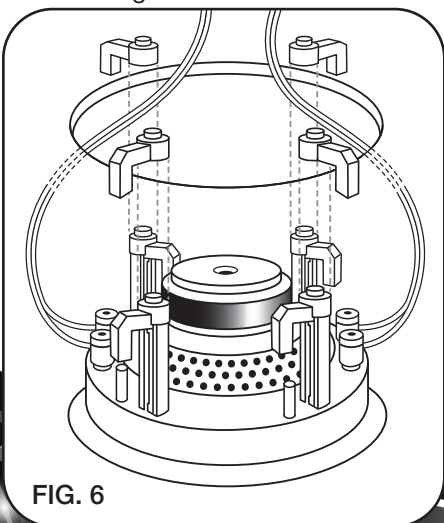

FIG. 6
For surround rear center, mount the speaker as shown in FIG. 2 position 2. (Note: Connect the two rear channel outputs from your receiver to the two sets of input terminals on the speaker, as shown in FIG. 6.) Avoid mounting the speaker in stud cavities containing electrical wiring, heating ducts, water pipes, etc. Make sure the wall or ceiling materials are sturdy enough to support the weight of the speaker.
6. See FIG. 6. With the speaker wires attached to the speaker, slide the speaker up inside the cutout hole. Center the speaker in the cutout hole and turn the four locking screws clockwise until the speaker is drawn up snugly to the wall board from behind, clamping the speaker in place. Try to tighten each screw equally. Replace the speaker grille by gently placing it over the speaker until the magnets "grab" hold of the grille.